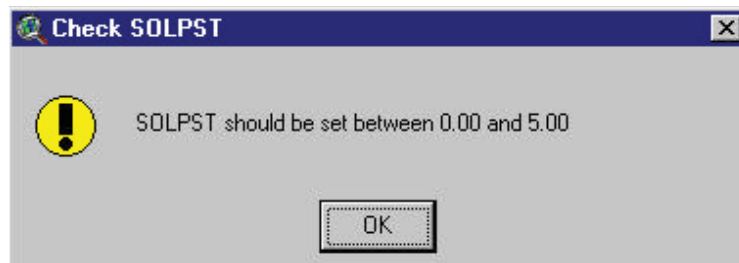

Figure 12.78
- e. To edit the parameter values for a particular pesticide, highlight the pesticide name. Activate a parameter text box by clicking on it. Type the desired value in the text box. You can move to the next parameter by pressing the `Tab` key. If the value of the parameter is out of range, a message box like the one in Figure 12.78 pops up.